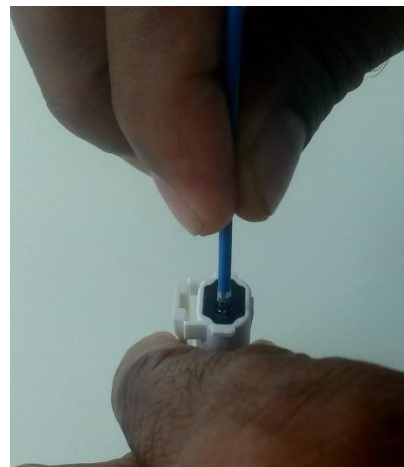

Fig 8
3. Insert the terminal gently into the housing as shown figure 8.